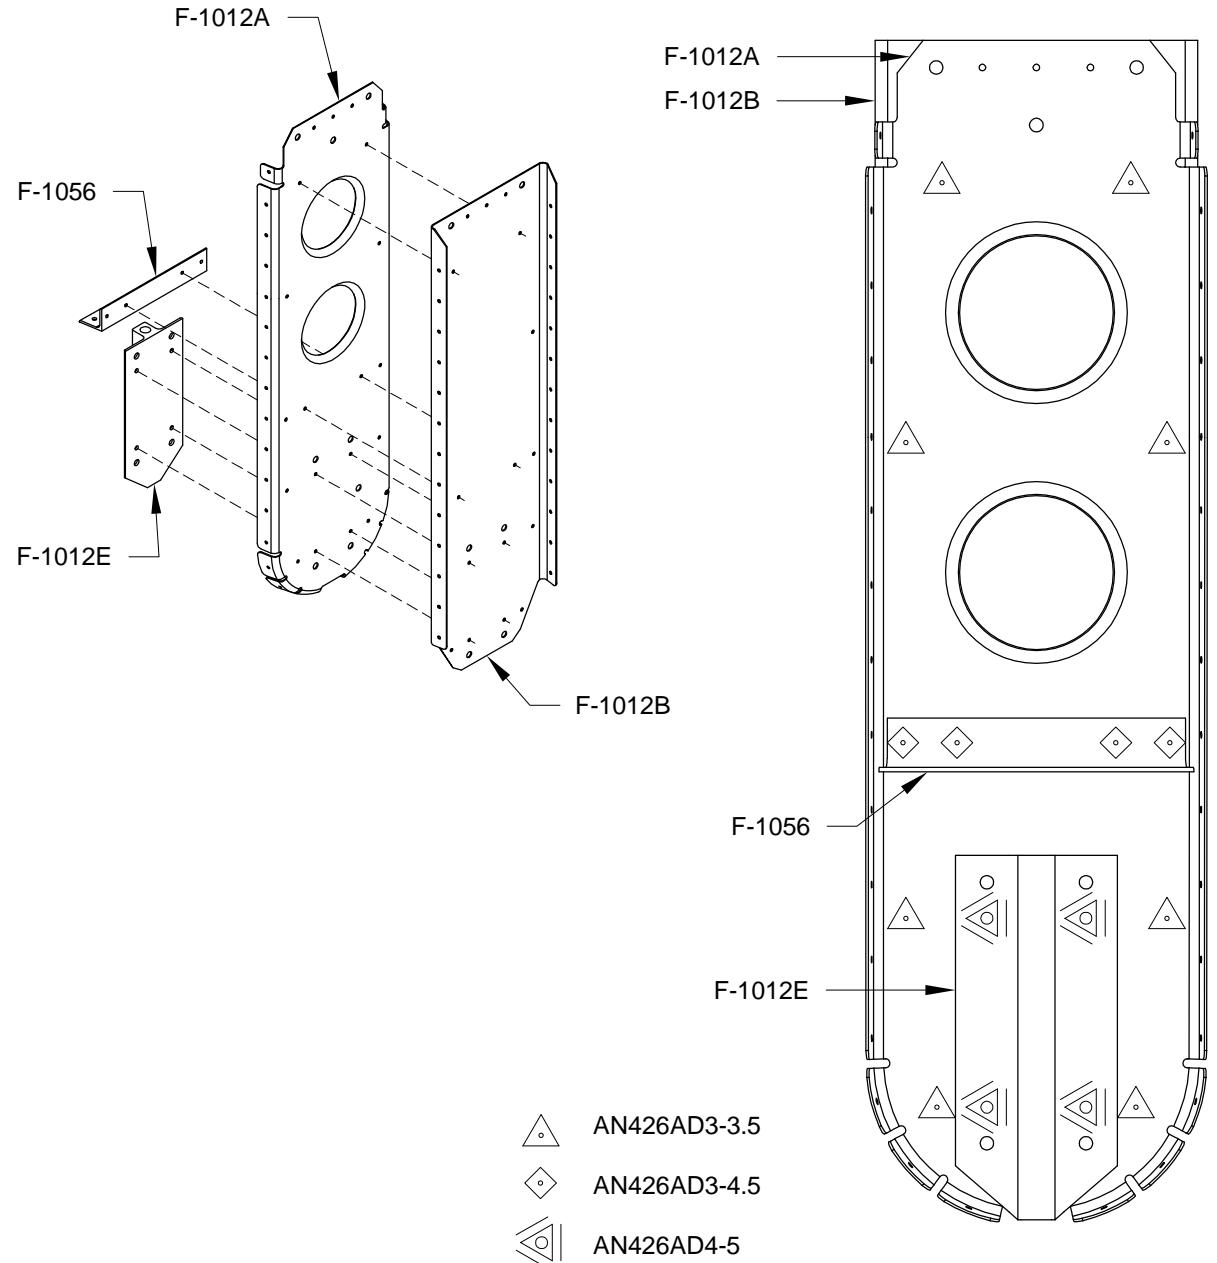

FIGURE 1: RIVETING THE F-1012
Step 1: Rivet the F-1012A & B Bulkheads, the F-1056 Rudder Stop Brace, and the F-1012E Tie Down Bar using the rivets called out in Figure 1.